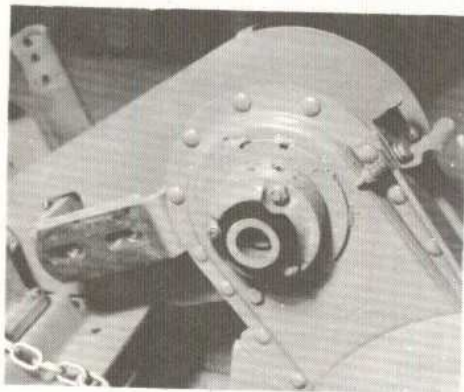

FIG. 49
2. Remove three nuts and remove pivot hub, Fig. 49.